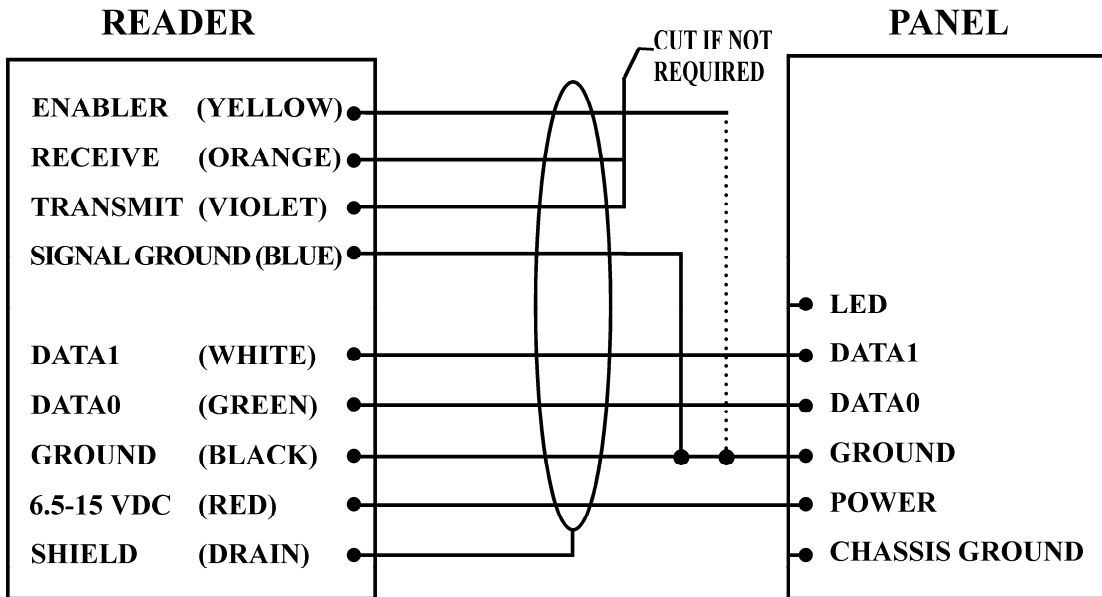
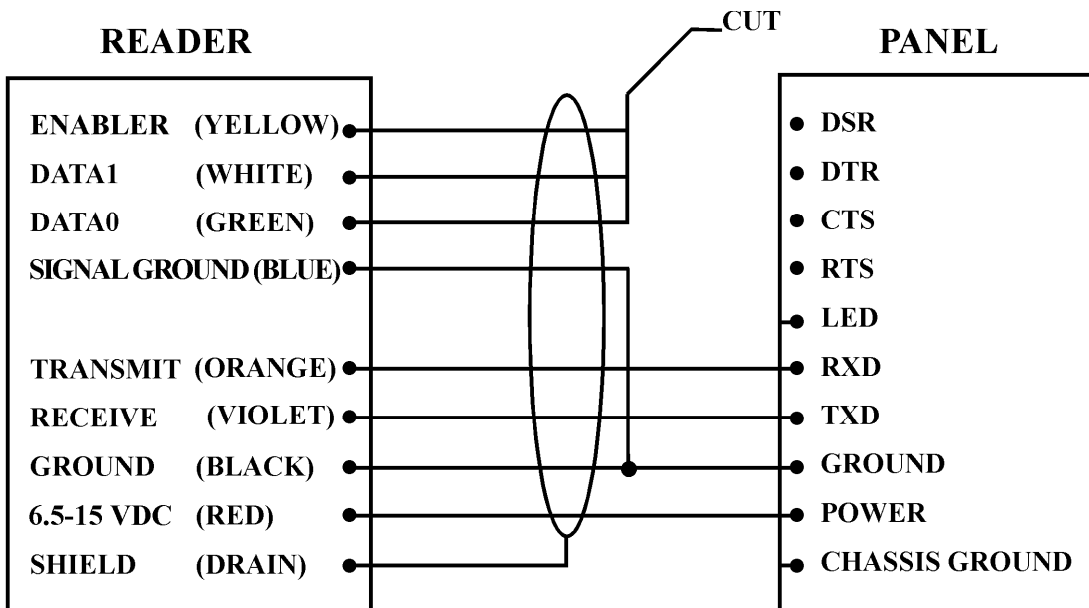

Figure 1 Wiegand Output Format
Figure 2 RS-232 Output Format
See Figure 1 for wiring using Wiegand output to the host panel, Figure 2 for using RS-232 to the control device, or Figure 3 for a combination of them.
- d. **For Wiegand output, connect the Reader and the Panel together by cable according to Figure 1. For RS-232 data format, see Figure 2. For simultaneous outputs, see**